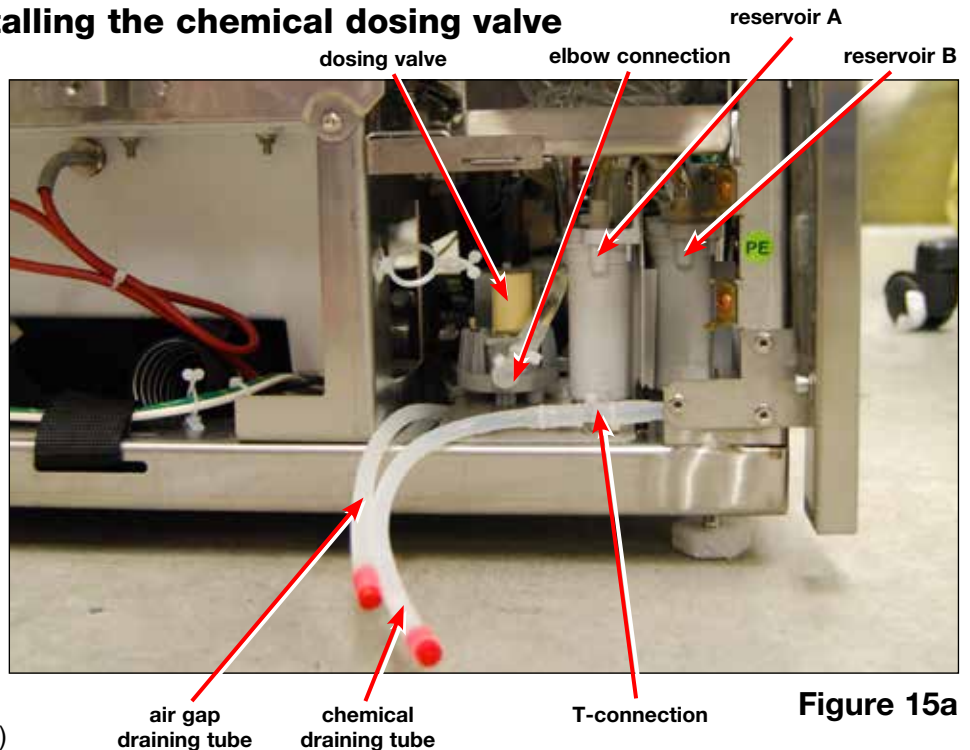

Figure 15a
3. Empty the reservoir using the dosing reservoir draining tube. (Figure 15a)
4. Disconnect T-connection tubing from reservoir A and the elbow connection tubing from the chemical dosing valve. (Figure 15a)